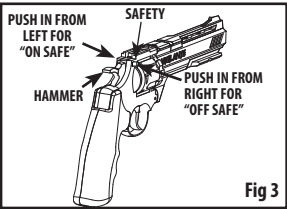

Fig 3
- Locate the safety below the rear sight. (Fig. 3) Pull the hammer back slightly and with your other hand, push the safety from the left side all the way in. The safety is not "On Safe" unless it is pushed all the way in and the RED mark on the left side of the safety is NOT showing.
1. Put the air pistol "ON SAFE" (Fig. 3).